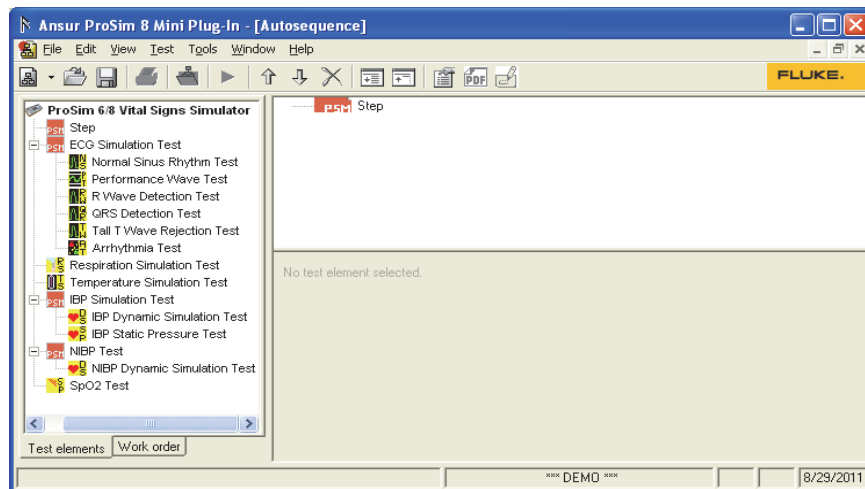

Figure 5-12. Build Autosequence Window
- Click **Create** to open the window shown in Figure 5-12.